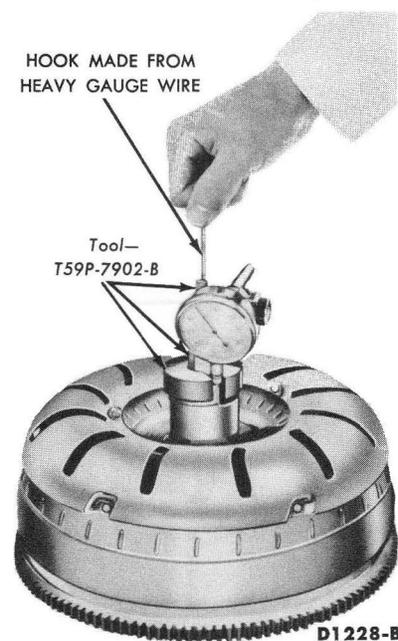

FIG. 2—Turbine and Stator End Play Check
4. Attach a dial indicator to the tool (Fig. 2). Position the indicator button on a converter pump drive hub